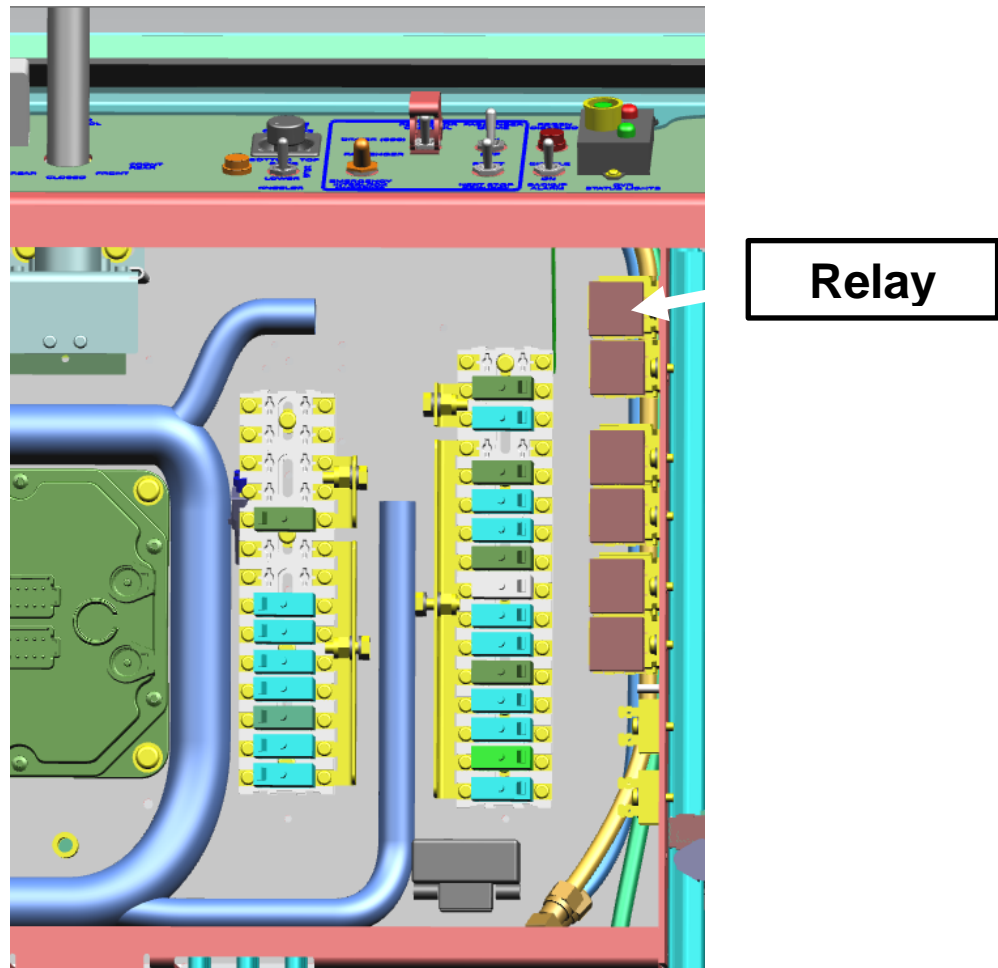

Figure 3 – Relay Location
5. Mount the new relay UCAP DELAY RLY on the right side of the Side Console Panel as shown in Figure 3.